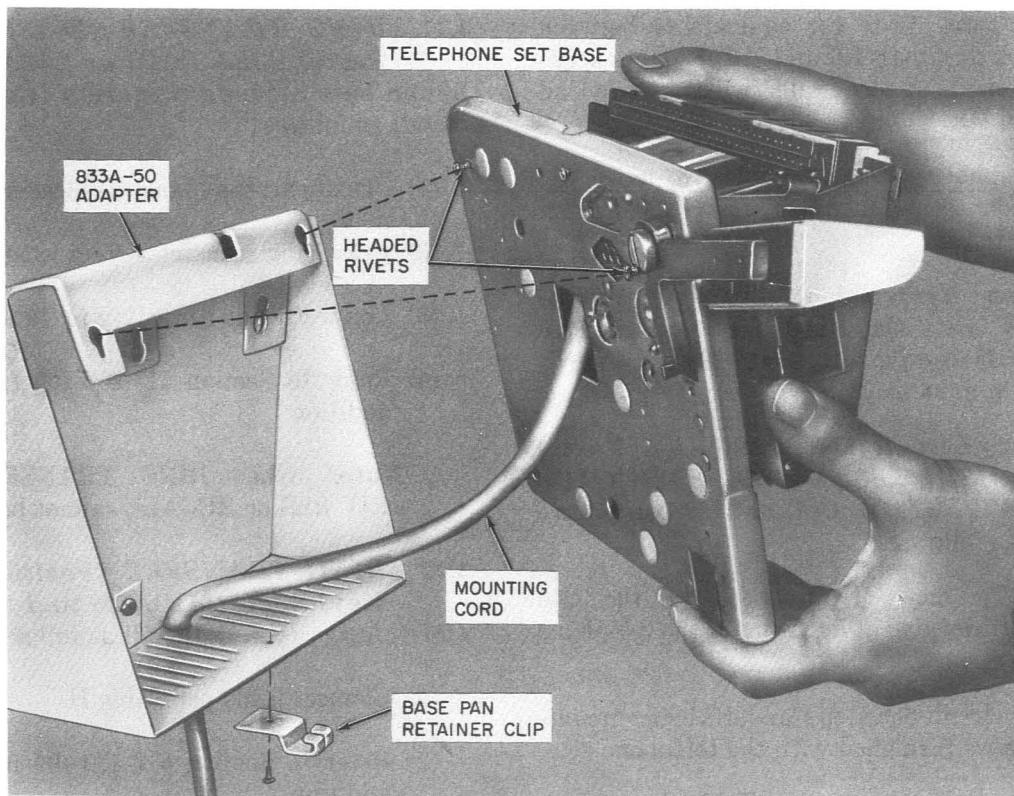

Fig. 6—Mounting Telephone Set Base onto 833A-50 Adapter
- (1) Mount the adapter to the wall or vertical surface as shown in Fig. 6, using appropriate fasteners (Section 080-720-105). If the mounting cord is to be dressed down the wall, it is necessary to pass the cord through the notch in the adapter before final attachment of the adapter to the wall. If the cabling enters through the wall, the mounting cord may be contained within the adapter.
- (2) Remove faceplate and housing from telephone set. Use a KS-21107 type releaser or equivalent to release the faceplate catch.
- (3) Hang the telephone set on the adapter from the headed rivets that protrude from the base pan (Fig. 6).